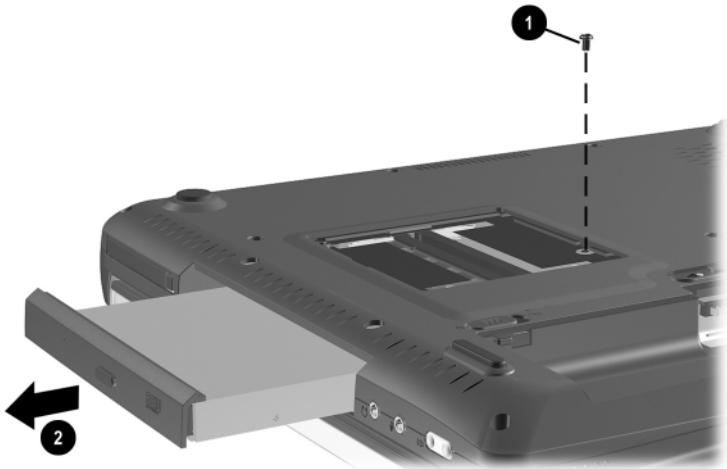

Figure 5-9. Removing an Optical Drive
4. Remove the TM2.5 × 7.0 screw ❶ that secures the optical drive to the base enclosure (Figure 5-9).
5. Slide the optical drive out of the base enclosure ❷.